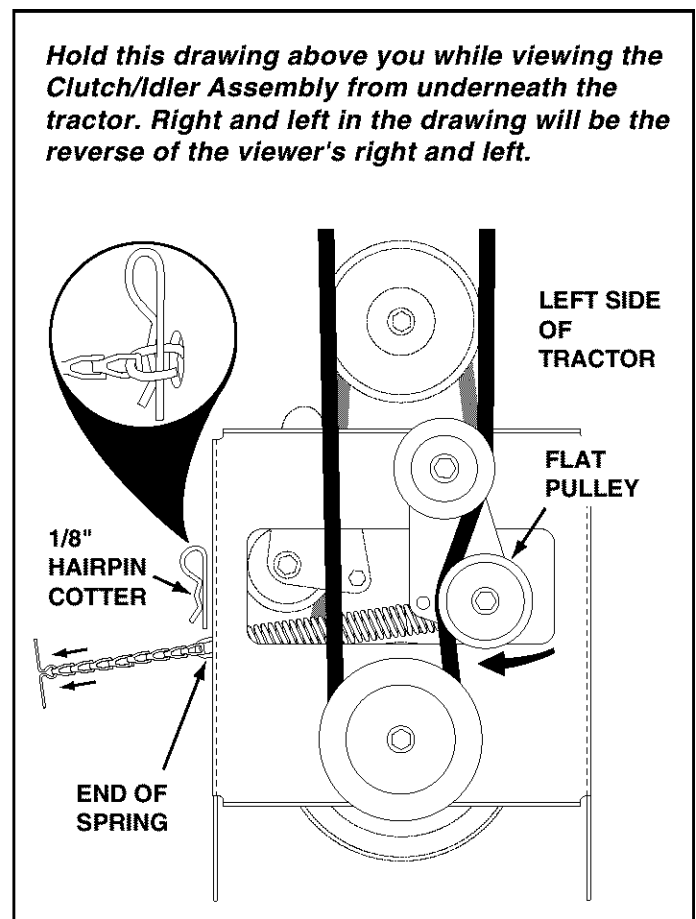

FIGURE 24
- Pull the tensioning chain until the end of the spring is pulled through the hole in the side of the Clutch/Idler assembly. Install the 1/8" hairpin cotter through the end of the spring, securing it on the outside of the Clutch/Idler assembly. See figure 24.